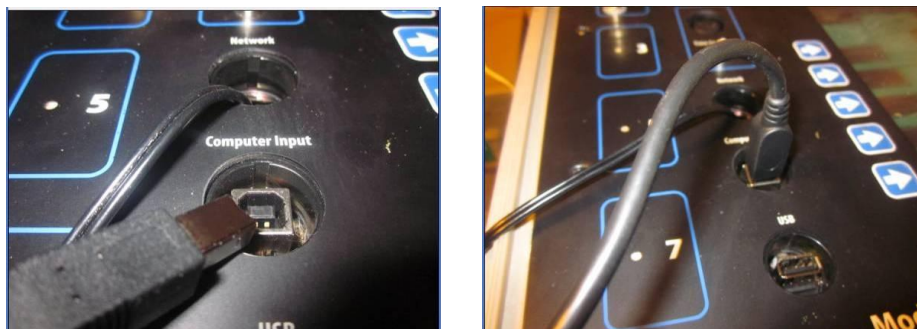

Figure 5: Connecting the Controller to your PC
1. Connect the USB A to B cable to the “Computer Input” port on the StarFire panel as shown in Figure 5.